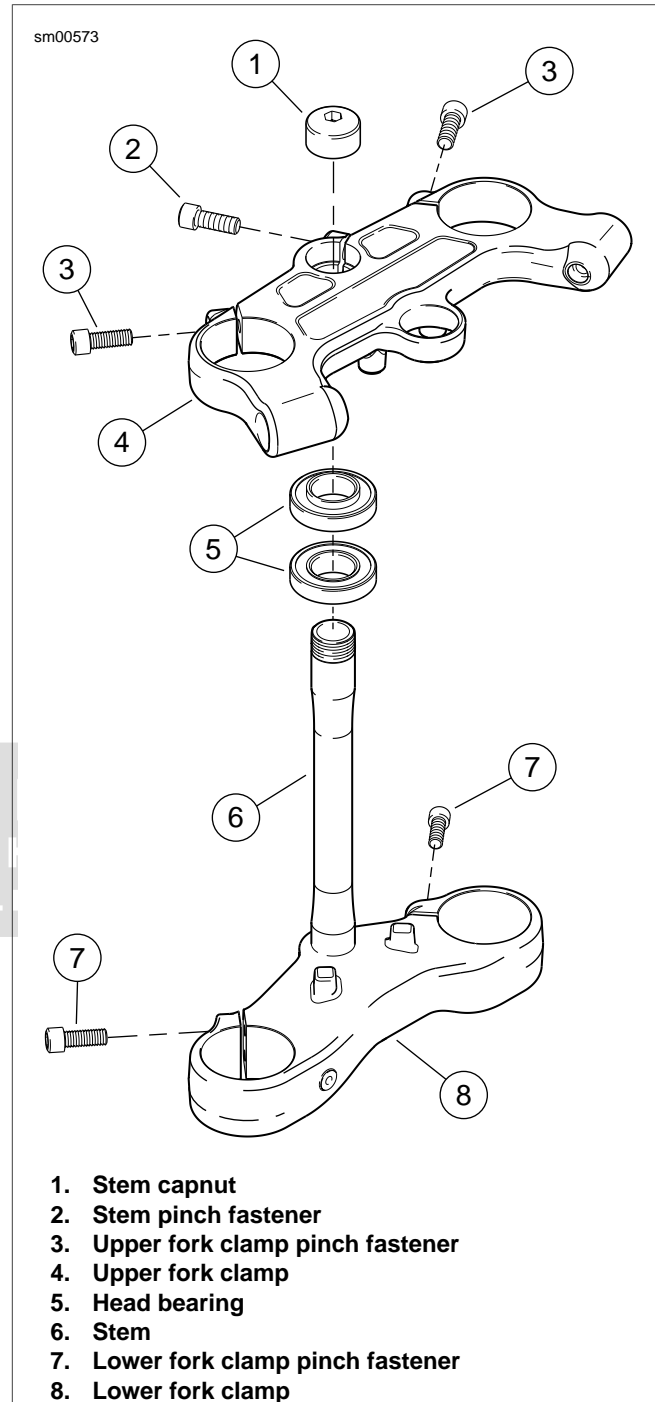

Figure 2-102. Steering Stem Assembly: Firebolt
5. See Figure 2-102. Remove steering stem pinch fastener (2).
7. See Figure 2-102. Hold or brace the lower fork clamp and remove steering stem capnut (1).
8. Remove the upper fork clamp (4).
9. Remove the stem (6) and lower fork clamp (8) as an assembly.
2. See Figure 2-102. Install the lower fork clamp (8) into the steering stem bore and install the upper fork clamp (4).
3. Install steering stem capnut (1). Thread on by hand but do not torque.